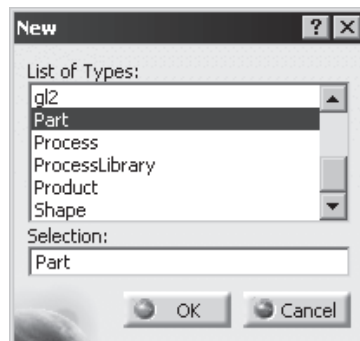

Figure 1-40 The New dialog box
- Choose **File > New** from the menu bar; the **New** dialog box is displayed, as shown in Figure 1-40.